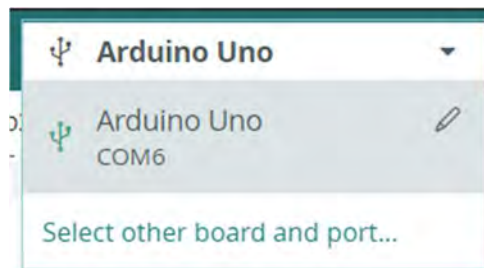
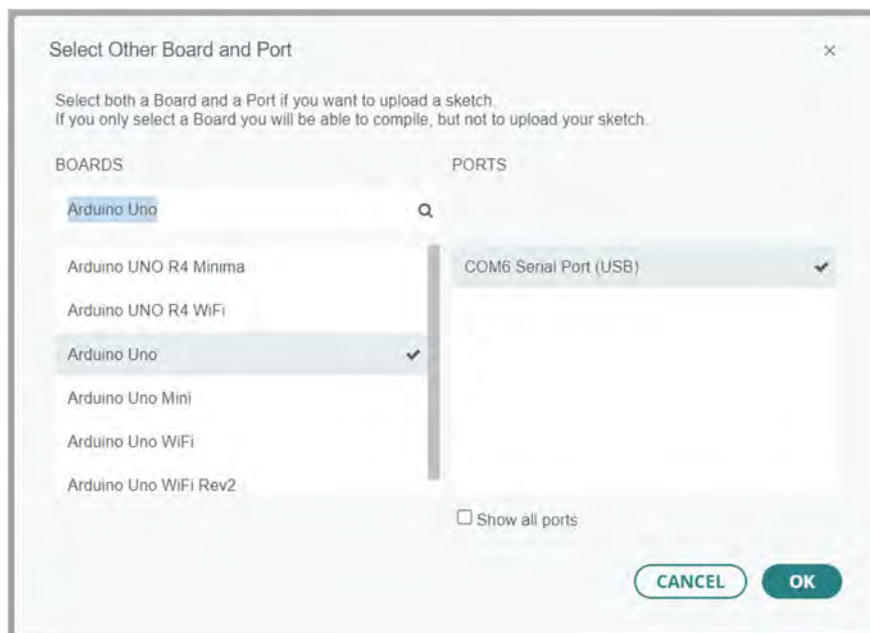
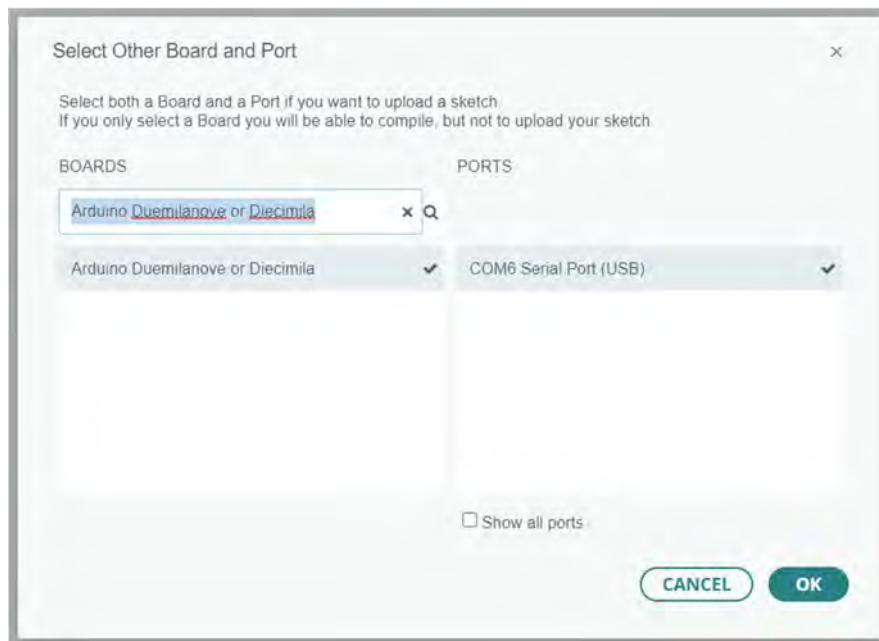

Figure 13: Select other board and port...
Figure 14: "Arduino Uno" board selection for the Uno R3+.
Figure 19: Incorrect board selection.
- **Board selection:** In the “Select other board and port...” option (Figure 13), in the “BOARDS” search, type and then select “Arduino Uno”, as shown in Figure 14. **NOTE:** this selection can also be done under the “Tools” and “Board:” option.
Solution: One possible cause of this error message is incorrect board selection. As an example, in Figure 19 the “Arduino Duemilanove or Diecimila” board was selected, which will not work with the *Uno R3+*. The solution to this is to select the correct board, which is “Arduino Uno” as shown in Figure 14.